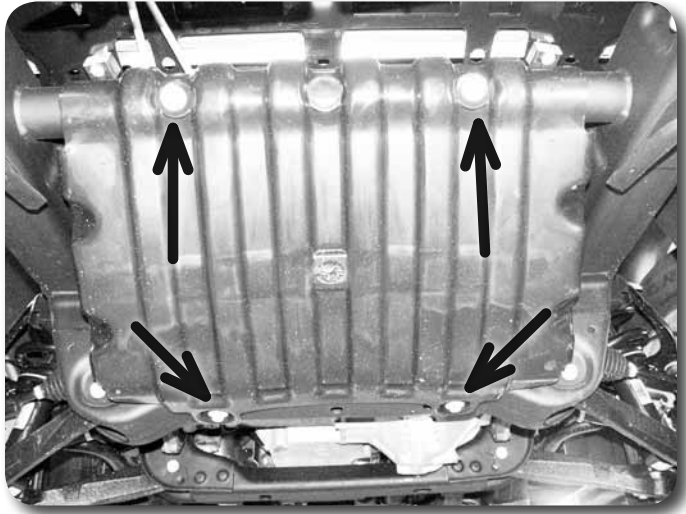

Figure 12
17. If equipped, remove the four bolts mounting the front skid plate to the frame Figure 12. Remove the skid plate from the vehicle. Save skid plate and bolts.